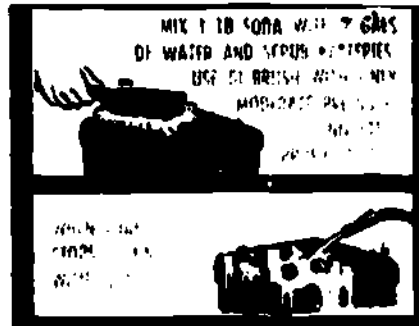

Fig 1-84. Cleaning battery.
- Clean.** Prior to charging, tighten all caps and clean the battery as shown in figure 1-84.